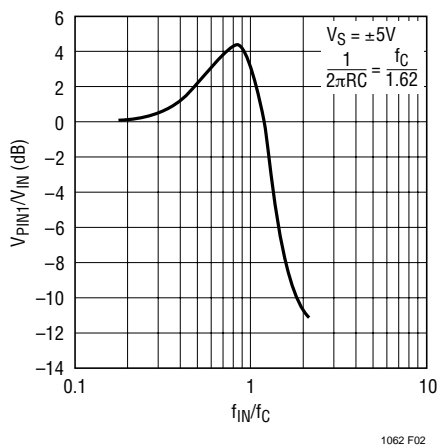

Figure 2. Amplitude Response of Pin 1
Every node of the LTC1062 typically swings within 1V of either voltage supply, positive or negative. With the appropriate external (RC) values, the amplitude response of all the internal or external nodes does not exceed a gain of 0dB with the exception of Pin 1. The amplitude response of the feedback node (Pin 1) is shown in Figure 2. For an input frequency around  $0.8 \cdot f_C$ , the gain is 1.7V/V and, with  $\pm 5V$  supplies, the peak-to-peak input voltage should not exceed 4.7V. If the input voltage goes beyond this value, clipping and distortion of the output waveform occur, but the filter will not get damaged nor will it oscillate. Also, the absolute maximum input voltage should not exceed the power supplies.